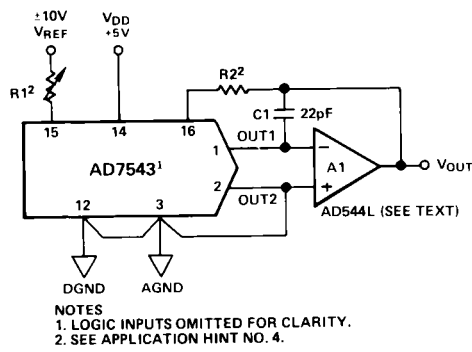
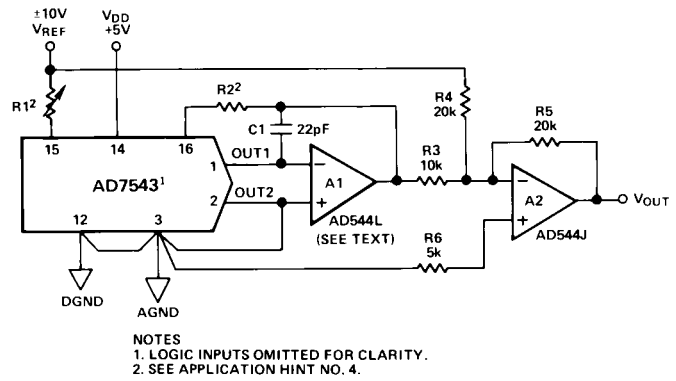

Figure 6. Unipolar Binary Operation (2-Quadrant Multiplication)
Figure 7. Bipolar Operation (4-Quadrant Multiplication)
Gain is defined as the ratio of the DAC's Full Scale output to its reference input voltage. An *ideal* AD7543 would exhibit a gain of  $-4095/4096$ . Gain error is adjustable using external trims as shown in Figures 6 and 7.
Register B can be asynchronously reset to 0000 0000 0000 by bringing CLR momentarily LOW. This allows the DAC output voltage to be set to a known condition, thus simplifying system initialization procedure. When operating the AD7543 in the unipolar circuit of Figure 6, a CLEAR causes the DAC output voltage to equal 0V. When using the bipolar circuit of Figure 7, a CLEAR causes the DAC output to equal  $-V_{REF}$ .
Figure 6 shows the analog circuit connections required for unipolar binary (2-quadrant multiplication) operation. The logic inputs are omitted for clarity. With a dc reference voltage or current (positive or negative polarity) applied at pin 15, the circuit is a unipolar D/A converter. With an ac reference voltage or current (again of + or - polarity) the circuit provides 2-quadrant multiplication (digitally controlled attenuation). The input/output relationship is shown in Table III.
Table III. Unipolar Binary Code Table for Circuit of Figure 6
Figure 7 and Table IV illustrate the circuitry and code relationship for bipolar operation. With a dc reference (positive or negative polarity) the circuit provides offset binary operation. With an ac reference, the eleven LSBs provide digitally controlled attenuation of the ac reference while the MSB provides polarity control.
Table IV. Bipolar Code Table for Offset Binary Circuit of Figure 7
4. GAIN TEMPERATURE COEFFICIENTS: The gain temperature coefficient of the AD7543 has a maximum value of 5ppm/°C and a typical value of 2ppm/°C. This corresponds to gain shifts of 2.0LSBs and 0.82LSBs respectively over a 100°C temperature range. When trim resistors are used to adjust full-scale range as shown in Figures 6 and 7 the temperature coefficient of R1 and R2 should be taken into account. It may be shown that the additional gain temperature coefficients introduced by R1 and R2 may be approximately expressed as follows:—